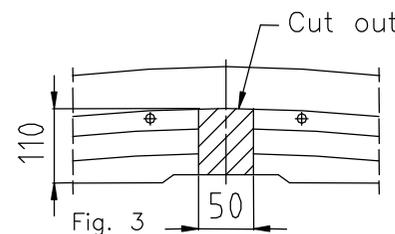

Fig. 3 Cut out
3. To the left and right chassis member slip sleeve $L=85$ mm (pos. 10), see fig.
4. To drilled holes put sleeves $L=51,5$ mm (pos. 9).
5. To the inside of chassis members and rear part of the car put brackets (pos. 4 and 5) and fix using bolts $M10 \times 120$ mm (pos. 12) through sleeves and bolts $M10 \times 35$ mm (pos. 14) through nuts on the jib (pos. 8).
6. Put the main bar of the towing hitch (pos. 1) on protruding elements (bolts) of removed metal reinforcement and fix using original nuts $M8$ (from reinforcement) and using $M10 \times 90$ mm (pos. 13) - see fig.
7. Elements of the towing hitch (pos. 6 and 7) fix loosely to the original tow handle, and next through holes (pos. A) of ball brackets fix using bolts $M10 \times 35$ mm (pos. 14).
8. Fix tow-ball (pos. 2) with socket plate (pos. 3) using bolts $M12 \times 75$ mm (pos. 11).
9. Assemble a cover plate and a bumper (cut out its fragment - see fig. 3 and 4).